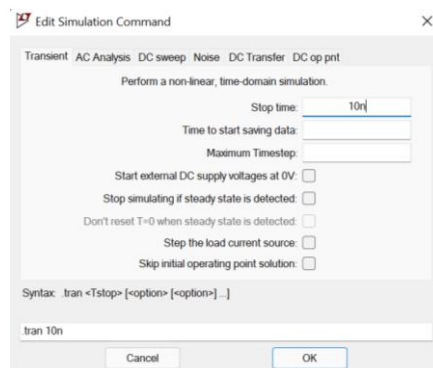

Fig. 7. Edit Simulation Command
8. To start the simulation click on . Select the desired simulation type and enter the required parameters. In this example, we will do a time analysis of the circuit, so it is enough to enter Stop Time of 10ns within the *Transient* tab (Fig. 7). A window opens to display the simulation results.